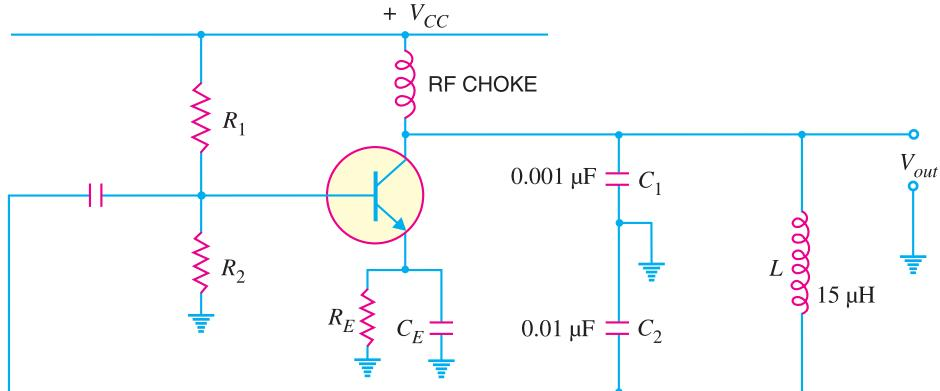

Fig. 14.12
**Example 14.3.** Determine the (i) operating frequency and (ii) feedback fraction for Colpitt's oscillator shown in Fig. 14.12.